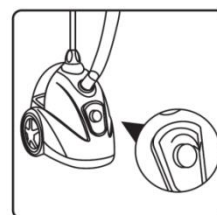

fig.14
- Plug in the power cord and turn on the power button. The power light will illuminate. The steamer is operating. (fig.14)